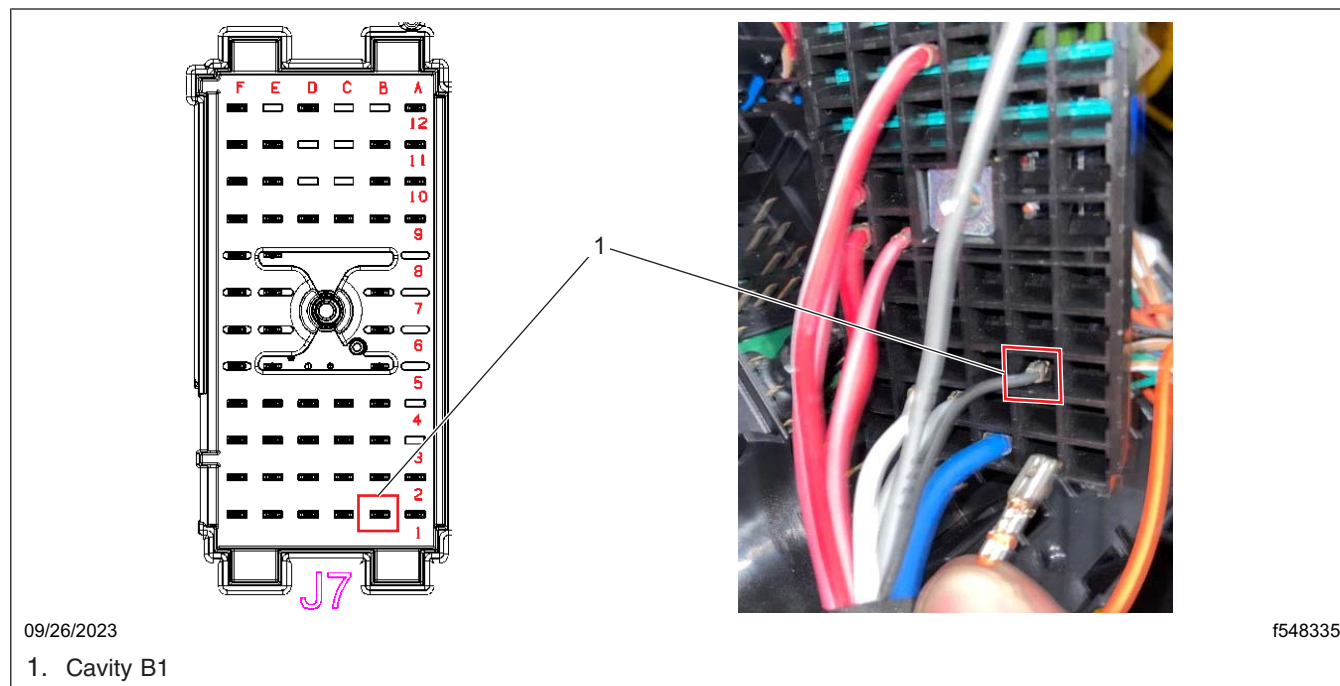

Fig. 67, Inserting the Orange (or pink) Wire into Cavity B1 of the VPDM J7 Connector
14.4 Insert the orange (or pink) wire into cavity B1 of the VPDM J7 connector. See Fig. 67.